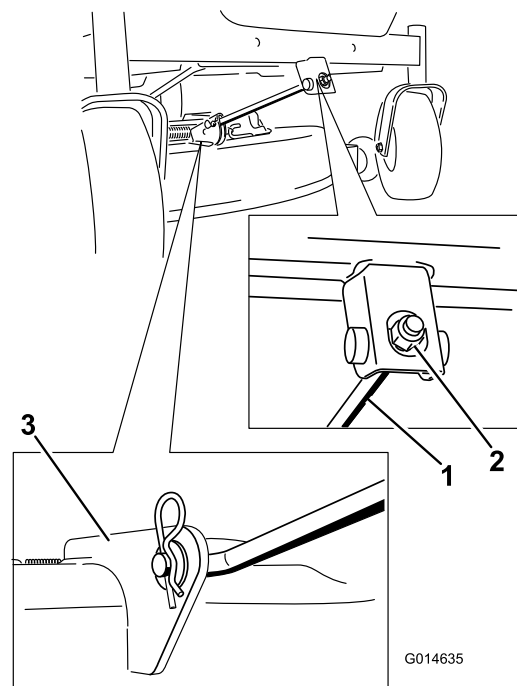

Figure 61
4. Remove the hairpin-cotter pin from the front support rod, and remove the rod from the deck bracket (Figure 61).
6. Attach the front support rod to the mower deck with the clevis pin and hairpin-cotter pin (Figure 61).